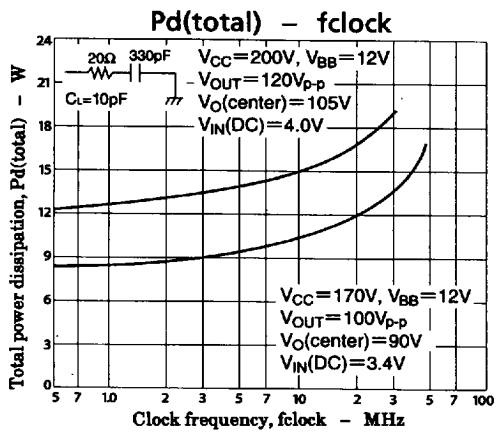

Fig.1
The temperature and the loss of the transistor chips depend on the operating frequency, and their values differ one another. Thermal calculations should be carried out for the largest-loss transistor at the maximum operating frequency of 30MHz (clock). The largest-loss transistor is Tr2 in the internal circuit schematic. It shares about 24% of the total loss shown in the Fig.1. Each transistor's Tj is calculated by next equation.
As mentioned above, the largest-loss transistor is Tr2, and the value is obtained from Figs. 1 and 2 and the equation (4);